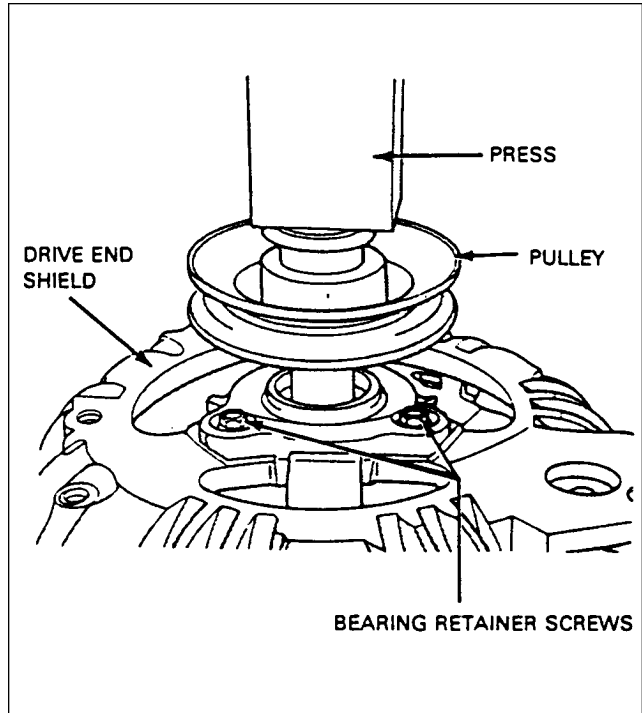

Figure 24-21. Installation of Pulley
5. Install pulley on rotor shaft. Rotor shaft must be supported in a manner which will direct all pressing force on pulley hub and rotor shaft. (Refer to figure 24-21.)